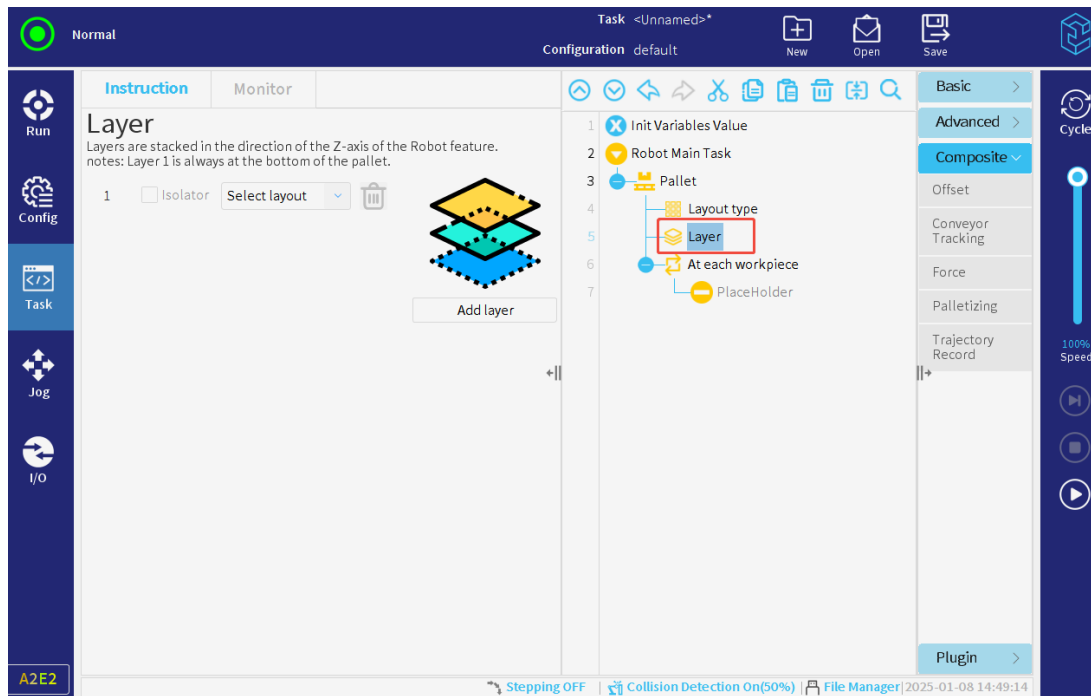

Figure 3-124 : Set layer
4. Click the "Layer" node in the task tree and click "Add layer" to set the number of layers of the pallet, the layout type of each layer, and whether to include the isolation layer, as shown in **Figure 3-124**.